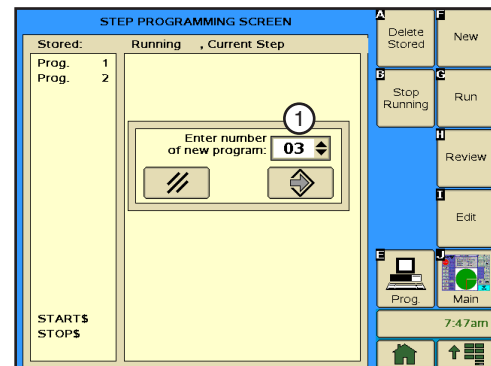

Figure 162-2 1. New Program Number Field
1. Push **Prog.** and **Step Prog.** to view the Step Program screen. Refer to Figure 162-2